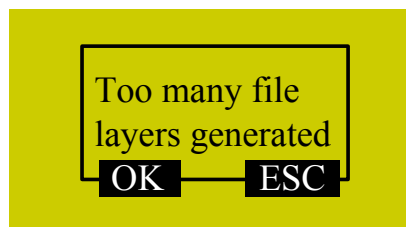

Fig. 7-6 Warning dialog when parameter not properly set
2. If the input value of “Engr Dpth” is too big, the system will send the warning information “Too many file layers generated, continue?”, as shown in Fig. 7-6. You can press [ESC] to back to modify the value; or press [OK] to load the file forcibly, the system staying in the interface shown in Fig. 7-6. At this time, if you press a key, its function will not be executed until this dialog box disappears, so it is not allowed to press any key under this state. You can wait patiently until the file is loaded, or you can power off and re-power on the system.